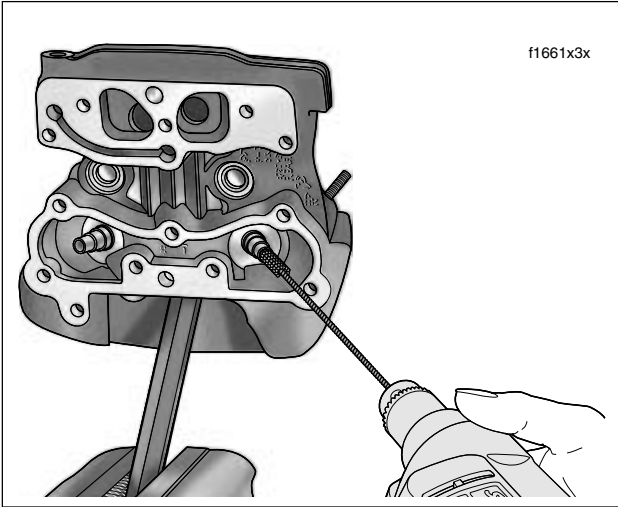

Figure 3-75. Hone Valve Guide Bore
- d. Activating the drill, move the entire length of the finishing stone arrangement forward and backward through the bore for 10 to 12 complete strokes. See Figure 3-75. Work for a crosshatch pattern of approximately 60°.